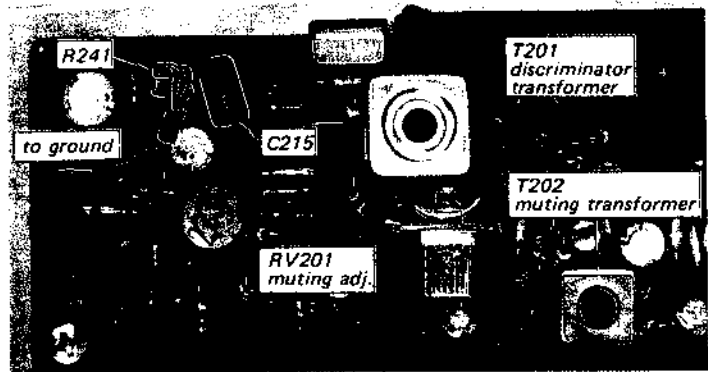
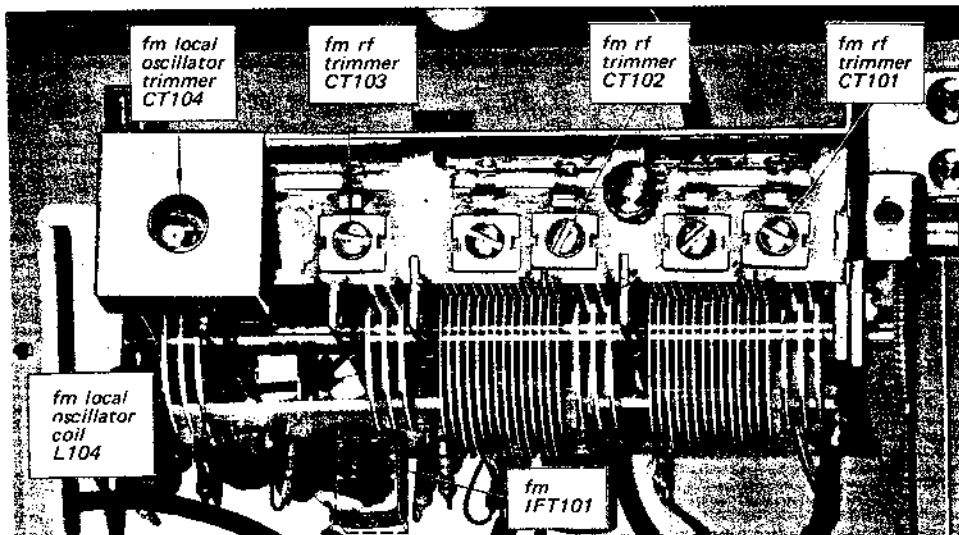

Fig. 3-2. Interruption of afc circuit and parts location
Fig. 3-4. Parts location
5. Short the connection point of R242 and C215 (AFC circuit) to ground as shown in Fig. 3-2.
3. Turn the core of transformer IFT101 or T201 (bottom core) (See Fig. 3-2 or Fig. 3-4) with the alignment tool to obtain maximum output.
3. Short the connection point of R242 and C215 (AFC circuit) to ground as shown in Fig. 3-2.
3. Turn the top core (secondary side) of discriminator transformer T201 (see Fig. 3-2) with a hex-head alignment tool to obtain a null-point reading on the tuning meter. If the discriminator transformer (T201) is not aligned correctly, some deviation on the tuning meter will be observed.
- Turn the knob of RV201 (see Fig. 3-2) fully clockwise on the fm i-f and discriminator board.
- Short the connection point of R242 and C215 (AFC circuit) to ground as shown in Fig. 3-2.
4. Short the connection point of R242 and C215 (AFC circuit) to ground as shown in Fig. 3-2.
1. Short the connection point of R242 and C215 (AFC circuit) to ground as shown in Fig. 3-2.
3. Check the dial scale for a calibration accuracy of  $\pm 200$  kHz from the carrier frequency of the station. If the dial-accuracy deviation exceeds this limit, turn the local-oscillator coil L104 slightly as shown in Fig. 3-4 until optimum dial calibration is obtained.
4. Tune the receiver to the highest-frequency station in your locality. If the dial-calibration error is excessive, adjust local-oscillator trimmer CT104 (see Fig. 3-4) to obtain maximum calibration accuracy.